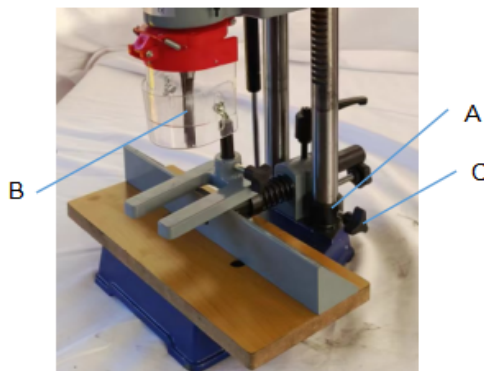

Fig. 11
A depth stop guide (A) Fig. 11, is provided to limit the depth of the chisel (B). To adjust the depth stop guide (A), loosen screw (C) and lower head until the chisel (B) is at the desired depth. Lower depth stop guide (A) until it is at the desired depth, tighten screw (C).